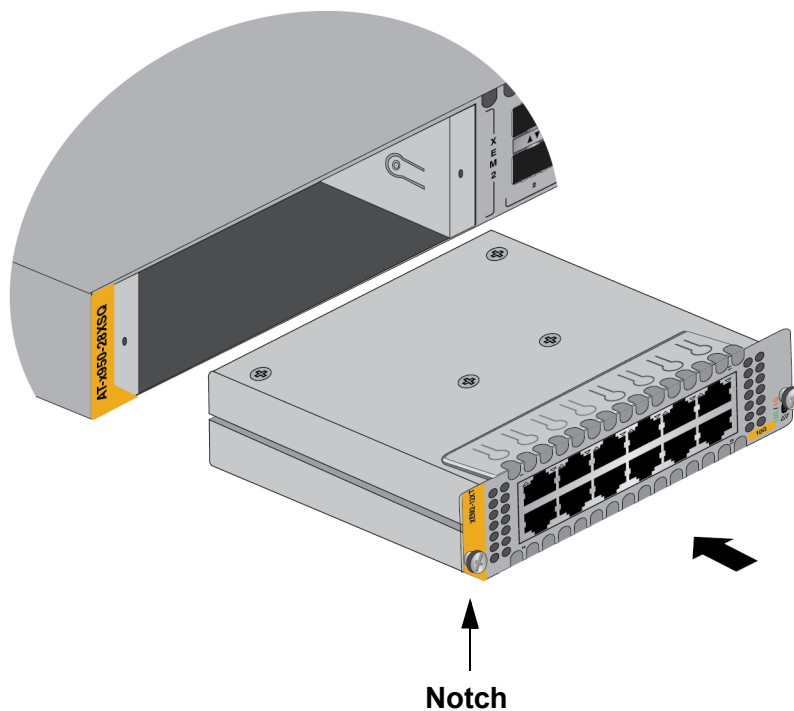

Figure 74. Sliding the Ethernet Line Card into the Slot
3. Position the line card with the notch on the faceplate in the bottom left corner, as shown in Figure 74, and carefully slide it into the slot.